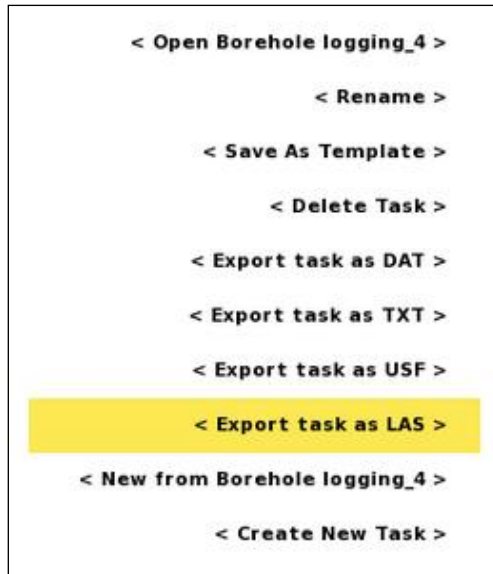

Figure 103 Task options menu
- Highlight <Export task as LAS> (Figure 103)